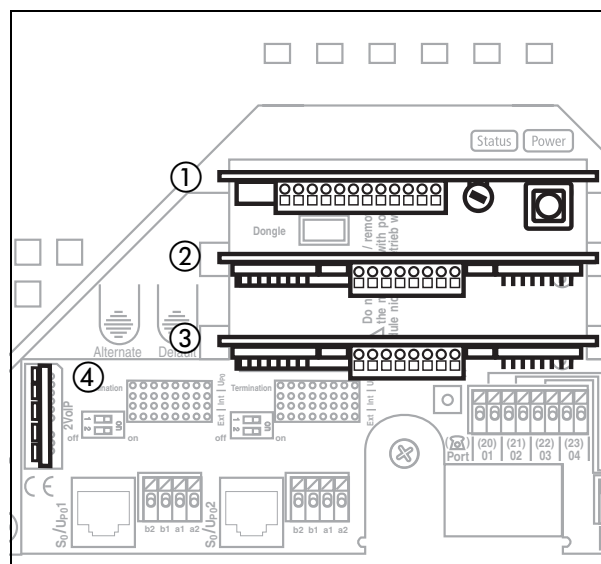

Fig. 10: Expansion slots on the base circuit board
1. Insert the module between the two circuit board guides. See Fig. 10 on page 19.